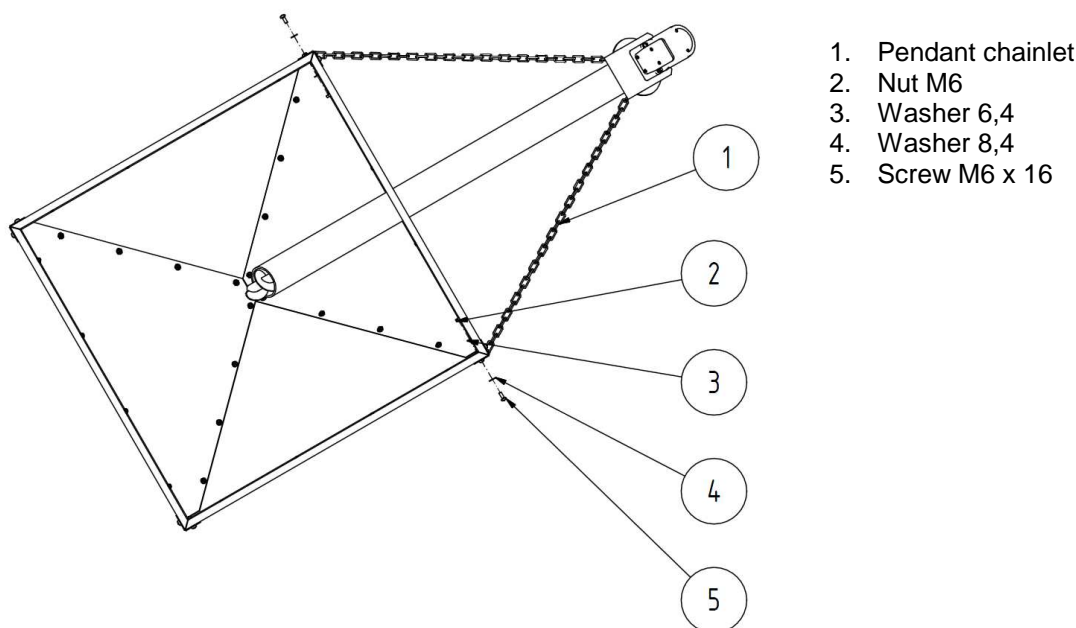

Fig. no. 19 Mounting of pendant chainlets to the fuel tank
4. Screw the pendant chainlets to the fuel tank according to Fig.no.19.